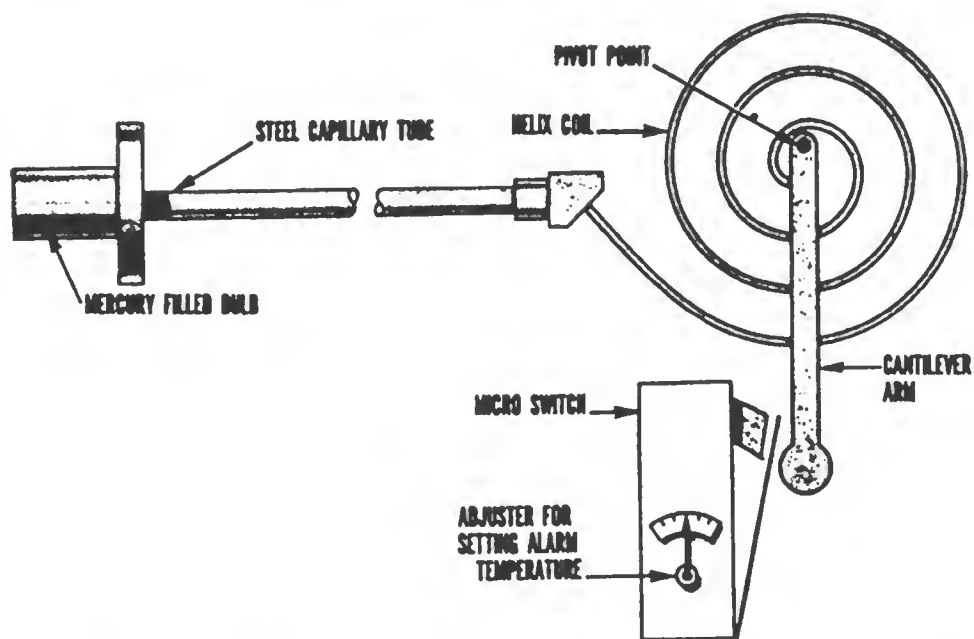

Figure 271. — Diagram showing principle of superheater temperature alarm.
*Controlling type.* — The Bourdon principle is also used to actuate controlling types such as superheater temperature alarms. As indicated in figure 271, the Bourdon tube in this type of instrument is made in the shape of a helix to which a cantilever arm is mechanically attached. The mercury-filled